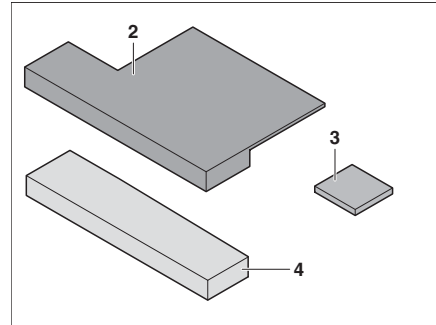

Fig. 166 Additional cushion
- Mount the seat wedge (Fig. 166,3) on additional cushion (Fig. 166,2) (with Velcro).